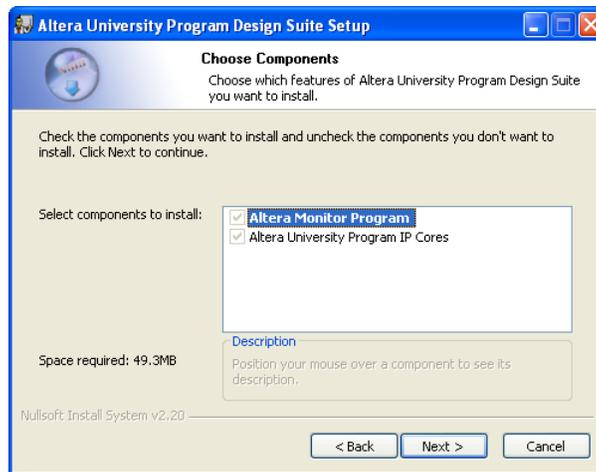
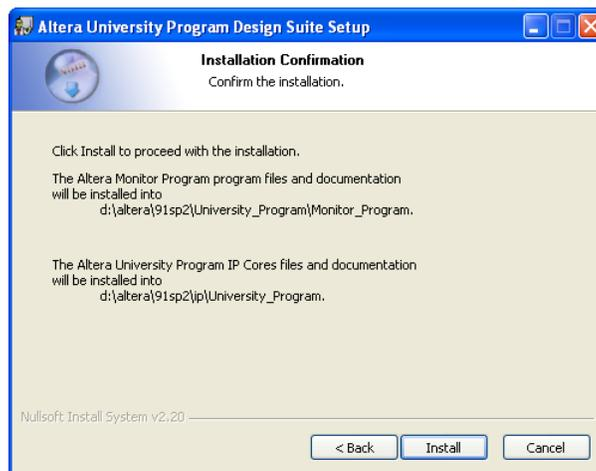

Figure 2. The components that will be installed.
Figure 3. The locations of directories where components will be installed.
- The next screen, shown in Figure 2, lists the components that will be installed, which include the Monitor Program software and University Program IP Cores. The University Program IP Cores provide a number of I/O device circuits that are used in Nios II hardware systems. Click **Next** to open the window in Figure 3, which shows the locations where the Monitor Program and University Program IP Cores will be stored; these locations are based on the directory (folder) where the Quartus II software is installed, and cannot be changed.